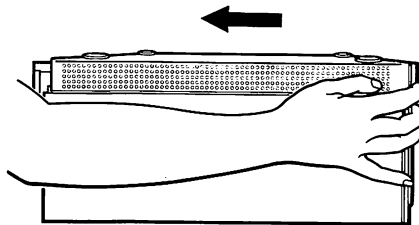

Figure 2-13. Slide bottom cover into place.
- Slide the cover toward the rear of the processor until it is in place. Be sure the edges of the cover fit over the processor frame. See Fig. 2-13.